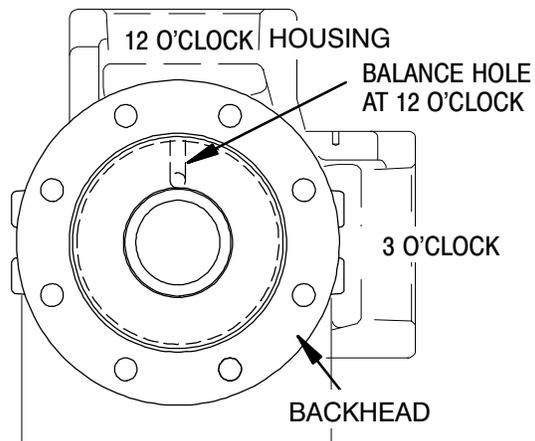

Figure E-5. Housing/Backhead Alignment
Position the balance hole as shown in Figure E-5, and secure the backhead assembly (06) to the housing (04) with the capscrews (B).